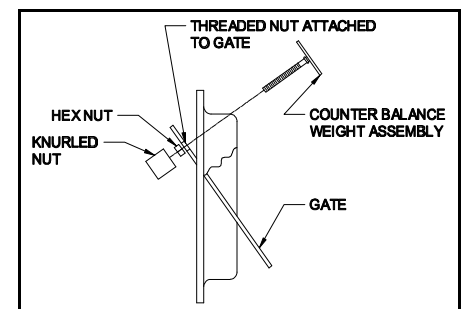

Figure 3
3. Assemble VRV balance weight onto the gate. Screw the weight all the way in. Then attach lock nut and knurl nut. (See Figure 3)
2. Assemble VRV balance weight onto the gate. Screw the weight all the way in. Then attach lock nut and knurl nut. (See Figure 3)